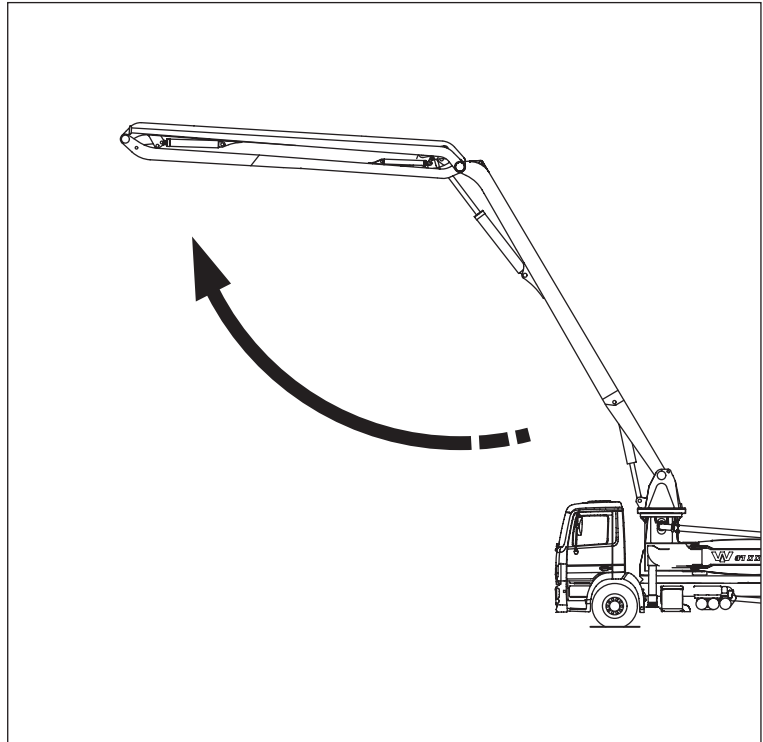
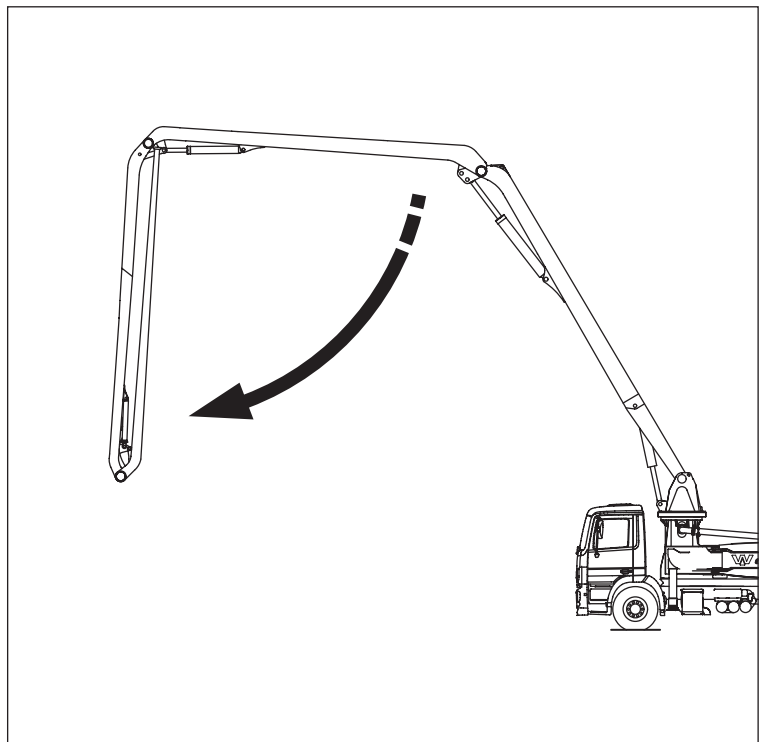
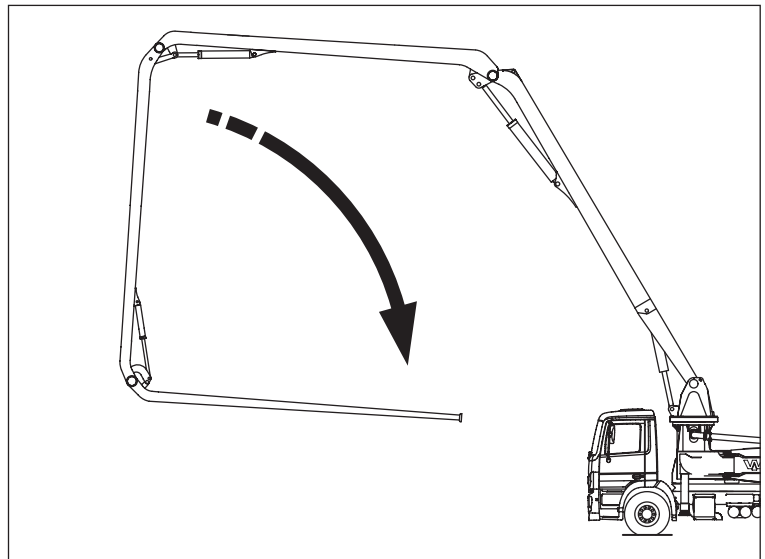
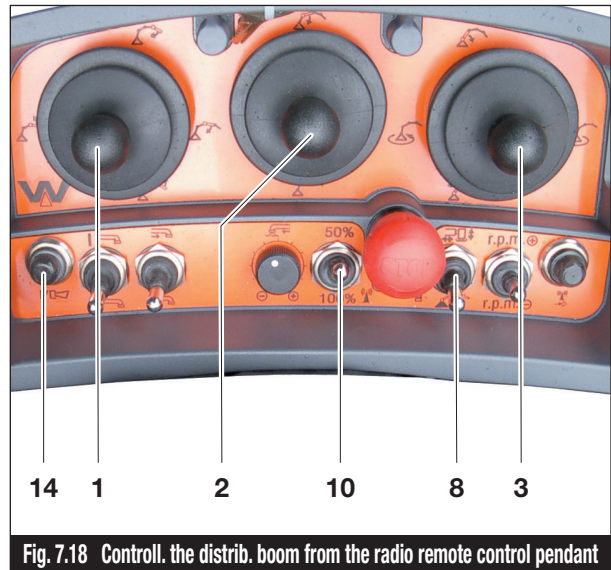

Fig. 7.14 Deploy boom element B
Fig. 7.15 Deploy boom element C
Fig. 7.16 Deploy boom element D
Fig. 7.18 Control. the distrib. boom from the radio remote control pendant
- Press the master switch “Deploy boom element A / Slew boom” (3) to move the distributor boom into the position where the discharge hose retainer can be opened.
- Press the master switch “Deploy boom element B” (2) and deploy boom element B until it is approx. 120° to boom element A (see Fig. 7.14).
- Use the joystick “Deploy boom element C and D” (1) to deploy boom element C to 90° to boom element B (see Fig. 7.15).
- Use the joystick “Deploy boom element C and D” (1) to deploy boom element D to 90° to boom element C (see Fig. 7.15).
- Release the Emergency Stop by pressing the Horn/Reset (Item 14, Fig. 7.18). The horn will sound.
- Switch the selector switch “Outrigger/ Boom” (Item 8, Fig. 7.18) to “Boom” and uncap the Emergency Stop button.
- The 50%/100% switch (Item 10, Fig. 7.18) controls the boom speed, 50% when pumping, 100% when deploying / stowing.
- Press the master switch “Deploy boom element A / Slew boom” (Item 3, Fig. 7.18) and deploy boom element A until the catch hook releases and the boom element B can be deployed (see Fig. 7.12).
- Press the master switch “Deploy boom element A / Slew boom” (Item 3, Fig. 7.18) to move the distributor boom into the position where the discharge hose retainer can be opened.
- Press the master switch “Deploy boom element B” (Item 2, Fig. 7.18) and deploy boom element B until it is approx. 120° to boom element A (see Fig. 7.14).
- Use the joystick “Deploy boom element C and D” (Item 1, Fig. 7.18) to deploy boom element C to 90° to boom element B (see Fig. 7.15).
- Use the joystick “Deploy boom element C and D” (Item 1, Fig. 7.18) to deploy boom element D to 90° to boom element C (see Fig. 7.16).